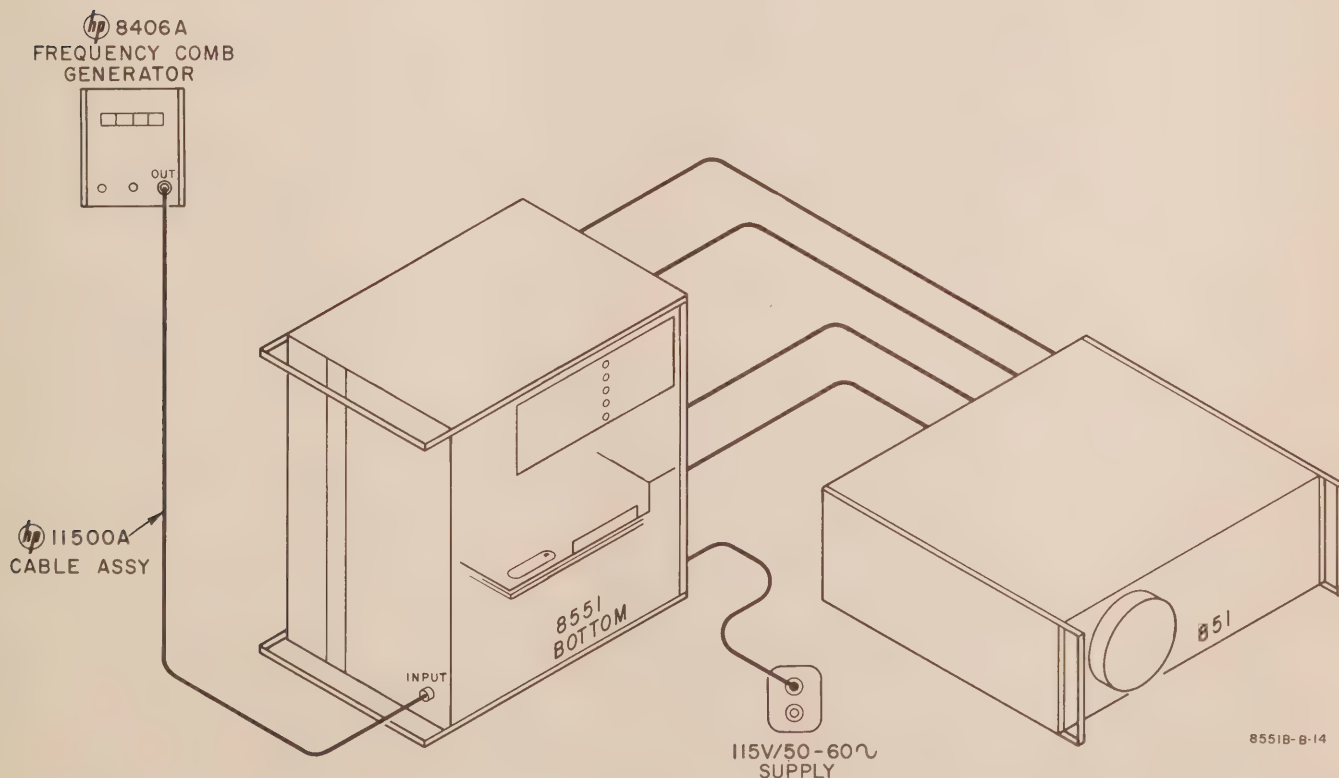

Figure 5-1. Measurement Setup, Frequency Linearity Check
a. Connect frequency comb generator to 8551B INPUT, as indicated in Figure 5-1. Depress 1-Mc control on generator. At this setting, generator delivers frequency markers spaced 1 Mc apart.